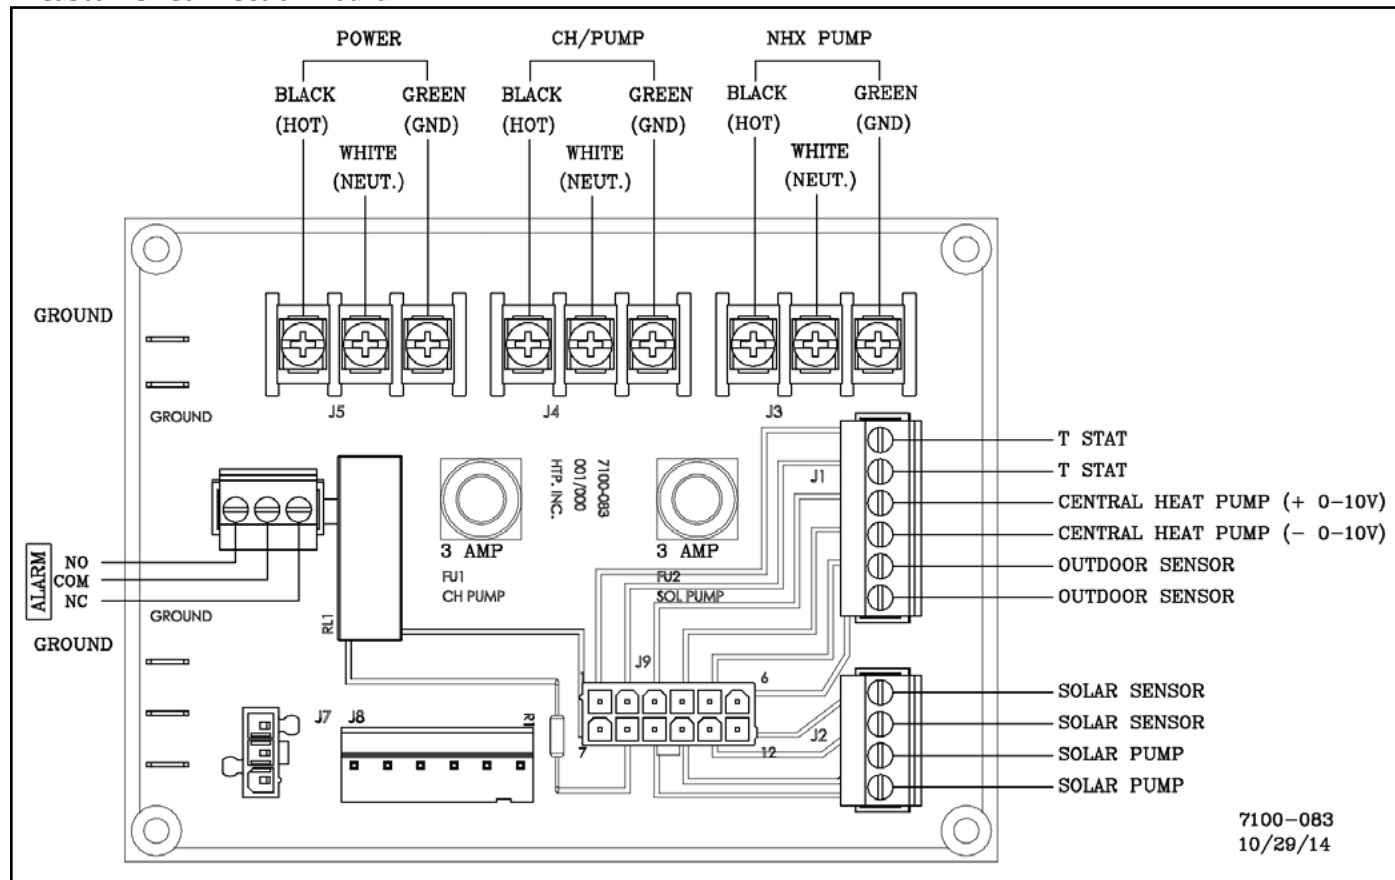

Figure 22 - Customer Connection Board
1. Connect the normal **incoming power** to the terminals marked as shown in Figure 22. A line voltage fused disconnect switch may be required to be externally mounted and connected according to local codes and standards.
2. Connect the **central heating pump** as shown in the terminals marked CH/DHW PUMP (see Figure 22). The connections shown are suitable for a maximum continuous pump draw of 3 amps at 120 volts. If the pump requires more current or voltage than the 120 volts supplied, an external motor starter will be required.
3. Connect the **NHX pump (if applicable)** as shown in the terminals marked NHX PUMP (see Figure 22). The connections shown are suitable for a maximum continuous pump draw of 3 amps at 120 volts. If the pump requires more current or voltage than the 120 volts supplied, an external motor starter will be required.
1. Make all low voltage connections to the terminal strip located on the field connection board (shown in Figure 22) as outlined below.
2. The **room thermostat** should be connected to the terminals marked T STAT (shown in Figure 22). Alternately, any dry contact closure across these terminals will cause the unit to operate the hydronic heating module. NOTE: Caution must be used to ensure neither of the terminals becomes connected to ground. Mount the thermostat on an inside wall as central as possible to the area being heated, away from drafts or heat producing devices such as a television, which could influence the ability of the thermostat to measure room temperature accurately. **NOTE:** If the thermostat is equipped with a directly connected anticipator, the anticipator should be set at .1 amps. If the thermostat is connected to other devices, the anticipator should be set to match the power requirements of those connected devices. Refer to the instruction manuals of the connected
3. The **outdoor sensor** must be connected for the unit to operate at optimum efficiency. Use a minimum 22 AWG wire for runs of 100 feet or less and minimum 18 AWG wire for runs up to 150 feet. Instructions are included with the outdoor sensor to correctly mount the sensor on the exterior surface of the building. It is preferable to mount the sensor on the north side in an area that will not be affected by direct sunlight but will be exposed to varying weather conditions. Connect the outdoor sensor to terminals marked "Outdoor" in Figure 22.
1. Connect a building management system or other auxiliary control signal to the terminals marked 0-10 VOLT + and 0-10 VOLT – in the electronics assembly (shown in Figure 22). Caution should be used to ensure that the 0-10 VOLT + connection does not become connected to ground.